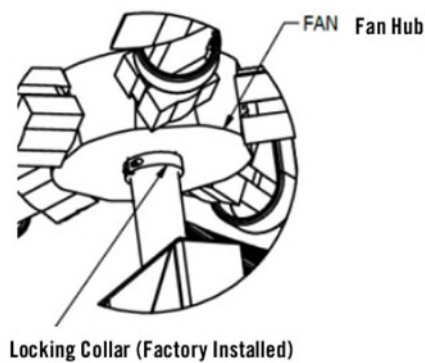

Figure 44: Bushing Keyway
2. Align the bushing keyway with the shaft keyway per **Figure 44**.